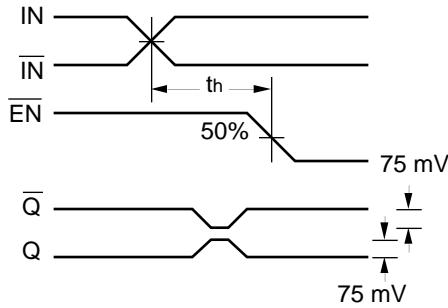

Figure 2. Hold Time
- The hold time is the minimum time that  $\overline{EN}$  must remain asserted after a negative going IN or a positive going  $\overline{IN}$  to prevent an output response greater than  $\pm 75$ mV to that IN/ $\overline{IN}$  transition (see Figure 2).